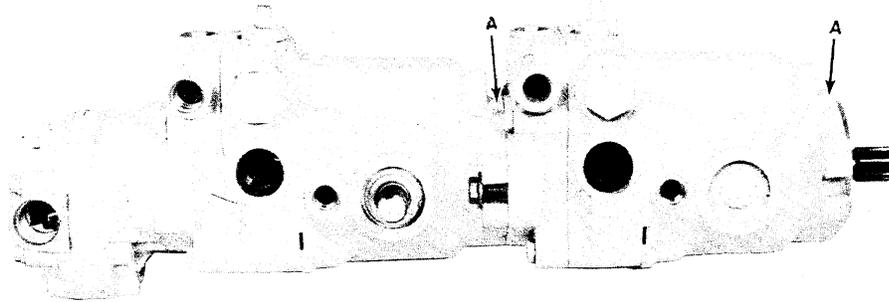
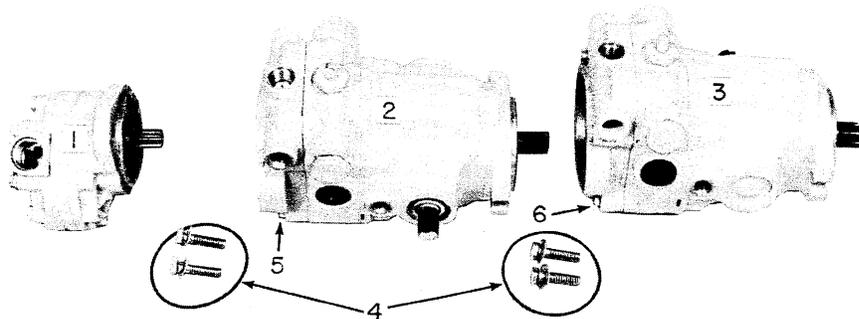

FIGURE 21
FIGURE 22
NOTE: Dealer adjustment requests for repairing oil leaks or any repairs or overhaul of transmission must include the MODEL NUMBER of the transmission and the DATE CODE. These are stamped in the flange of the pump housing, A, Figure 21.
The complete hydrostatic and gear pump assembly is shown in Figure 21, and is assembled as one complete unit. Figure 22 shows the three main components of the pump assembly (1) — gear pump, (2) — left hydrostatic pump, and (3) — right hydrostatic pump. These components are held together with four cap screws and two sealing O-rings as shown at (4), Figure 22. The left pump contains a gerotor pump in the adaptor assembly (5), Figure 22. The right pump has an adaptor plate only and does not contain a gerotor charge pump.